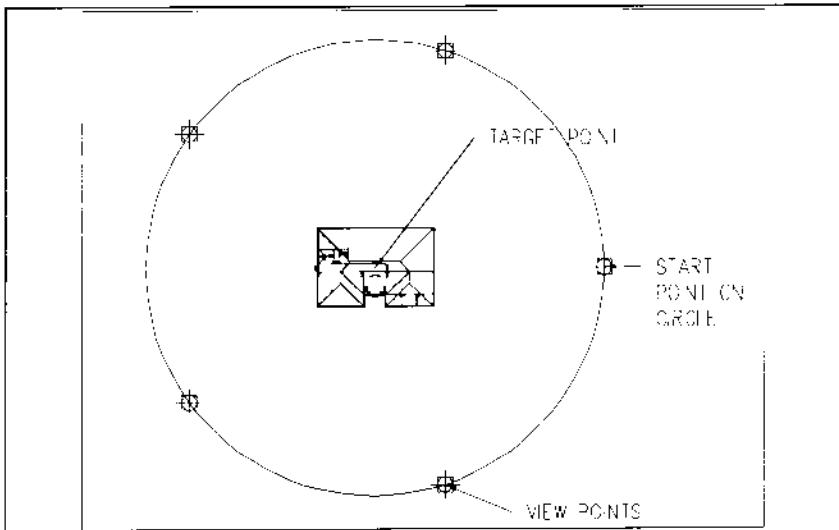

Figure 13.
7. The Eye Round command generates a circle around the building as shown in Figure 13.
- > Pick target point in plan or Eye/Target/Lens: [select point at center of building as shown in Figure 13]
- > Pick start point on circle: [select a point to create the circle as shown in Figure 13]
Note: Create a circle with a large diameter similar to Figure 13 to view the building at a distance.